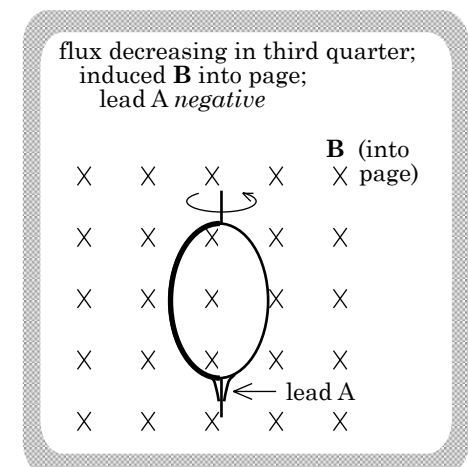

FIGURE 17.19
c.) The coil rotates through the *maximum-flux* position and into the third quarter of its cycle (Figure 17.19). In this part of its motion, the external flux is *decreasing*. The induced \mathbf{B} -field required to oppose this decrease must be into the page, which requires a current that is clockwise relative to ourselves. As such, *lead A* must be *negative*.
e.) Bottom line: The high-voltage side of a rotating coil alternates from one side to the other as the coil turns. This is how alternating current (AC) is generated.